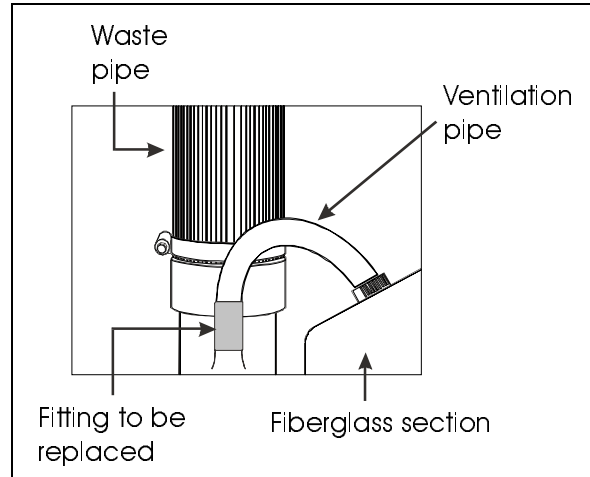

FIGURE 2A
2. Unscrew the fitting between the toilet ventilation pipe and the waste pipe (figure 2a).